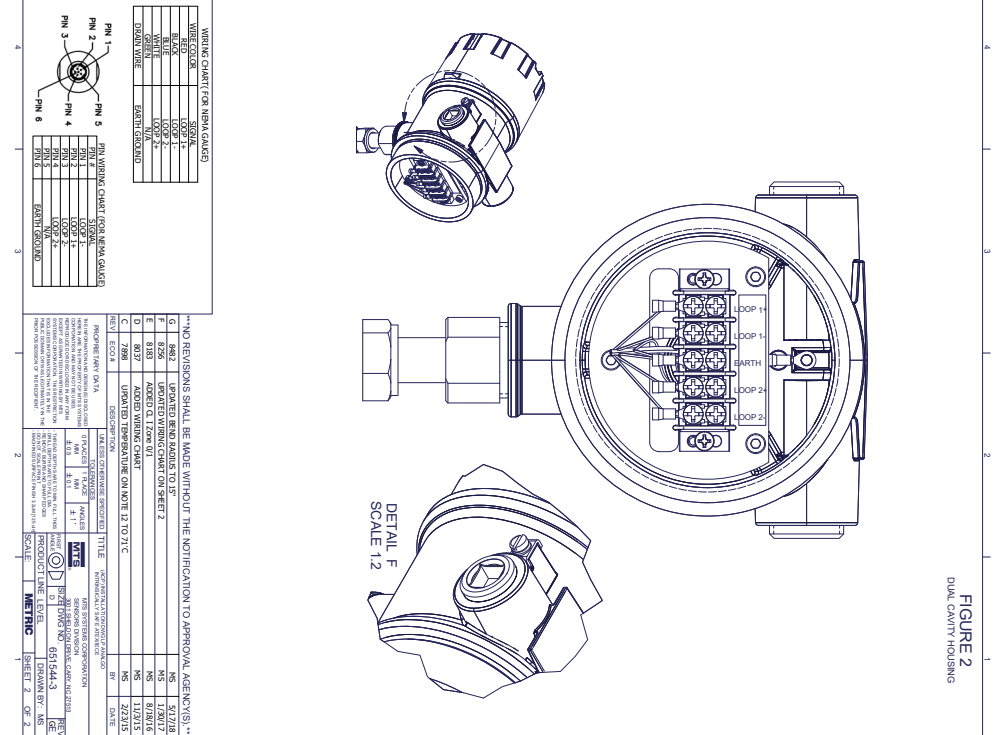

FIGURE 2
3. CUSTOMER CONNECTIONS WILL BE MADE AT TERMINAL BLOCK ON POWER SIDE OF HOUSING (NOT TO TERMINAL BLOCK ON INTERCONNECT BOARD); SEE FIGURE 2 ON PAGE 2.